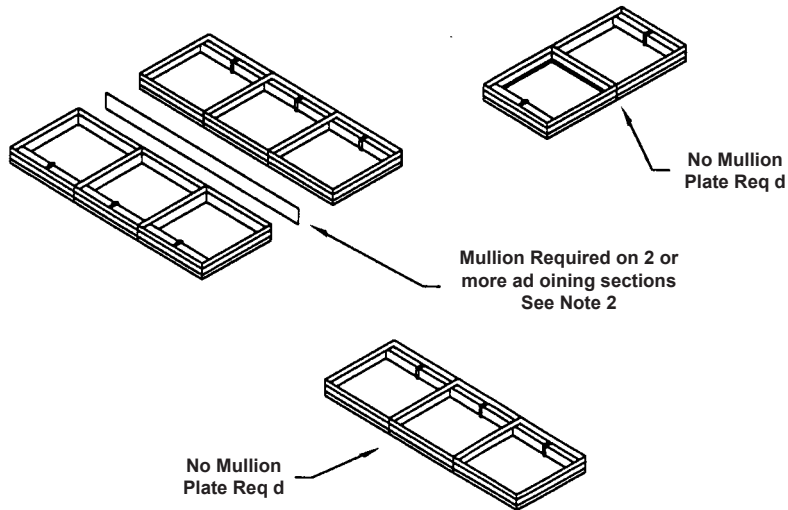

FIGURE 5
Multiple section horizontal mount dampers require a 14 gauge thick x 4 1/2" (2 x 114) wide steel reinforcing plate sandwiched between the damper frames with 1/2" (13) long welds staggered intermittently and spaced on maximum 6" (152) centers. The reinforcing plate must be the same material as the dampers. The length must be equal to the damper width of two or more adjoining damper sections. Reinforcing plates are not required for assemblies consisting of two dampers attached end-to-end or three dampers attached side-to-side as depicted in figure 5.